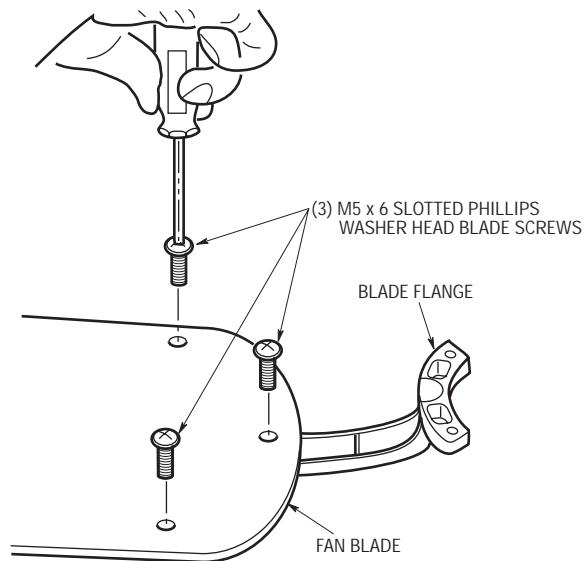

Figure 4
- 9. Mount blade flanges to fan blades using three M5 x 6 screws per blade (Figure 4).